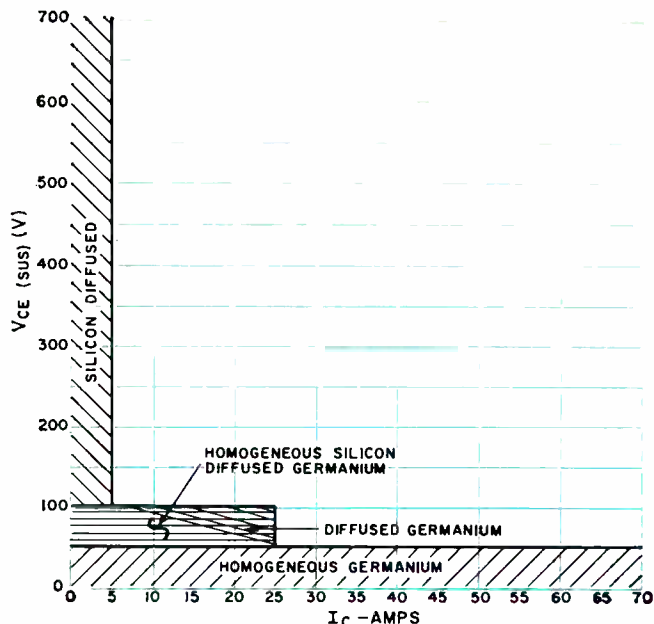

Fig. 4. Voltage and current capabilities of power transistors.
**Transistor construction and polarities:** The operating capabilities of germanium and silicon devices are shown in Fig. 4 for ambient temperatures below  $100^\circ$  C. For ambient temperatures greater than  $100^\circ$  C, only silicon transistors should be used.